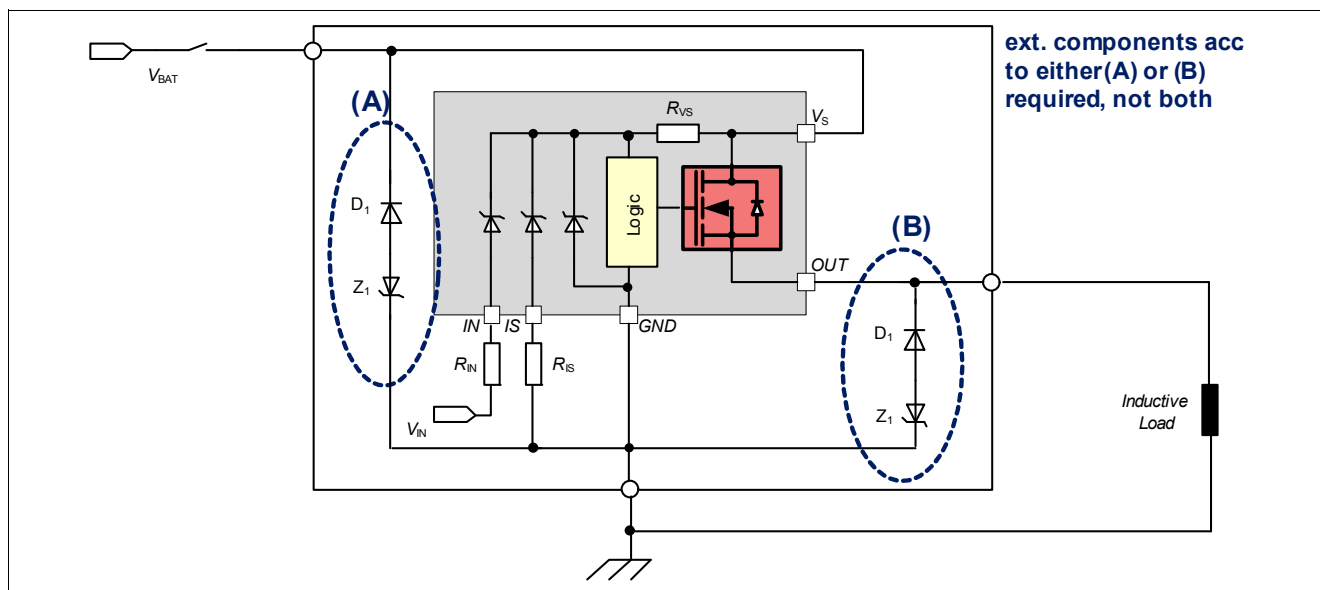
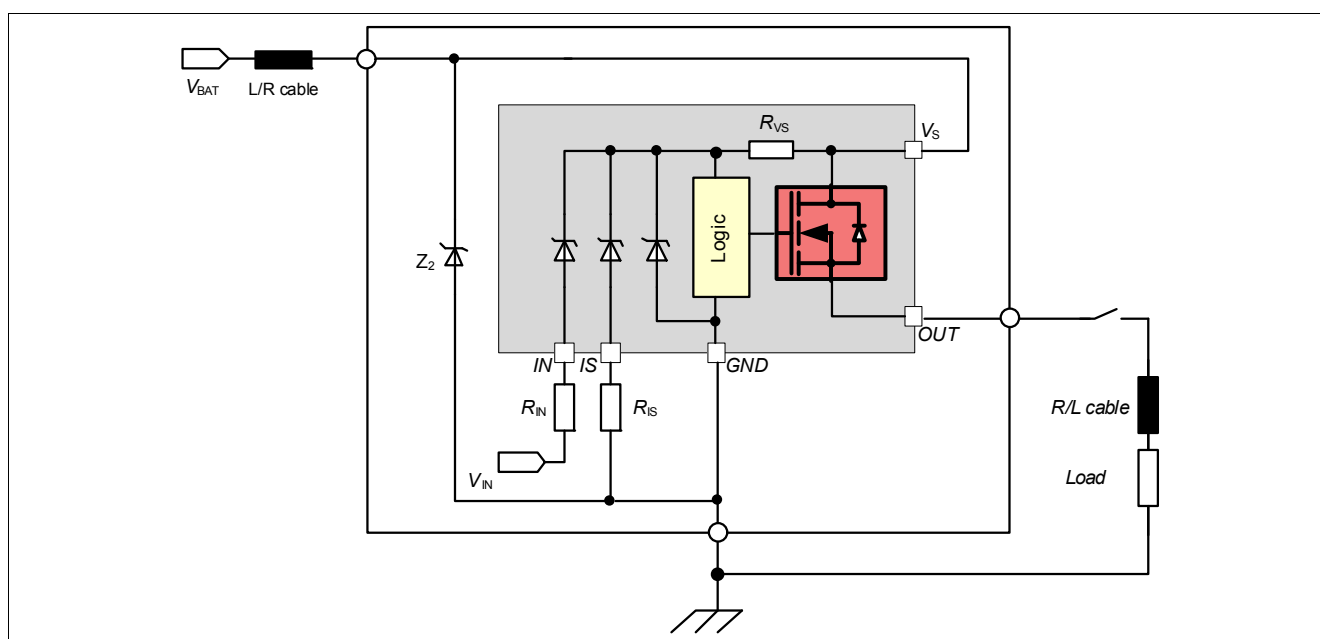

Figure 18 Loss of V_S
Figure 19 Loss of Load
In case of loss of V_S connection with charged inductive loads, a current path with sufficient load current capability has to be provided, to demagnetize the charged inductances. It is recommended to protect the device using a Zener diode together with a diode ($V_{Z1} + V_{D1} < 16\text{ V}$), with path (A) or path (B) as shown in **Figure 18**.
For higher clamp voltages, currents through all pins have to be limited according to the maximum ratings. Please see **Figure 18** and **Figure 19** for details.